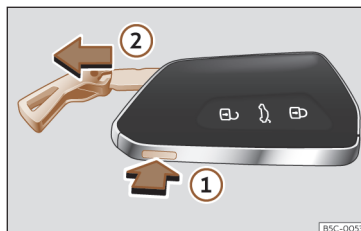

Fig. 68 Vehicle key: remove the key blade.
- Press the >>> **Fig. 68** ① button to release the ring from the key fob and remove the key blade ②. Pressing lightly on the ring leaves it fixed as a key fob.
- Press the >>> **Fig. 68** ① button to unlock. Press and hold button ① and at the same time pull on the ring in the direction of the arrow >>> **Fig. 68** ② to completely remove the key blade.